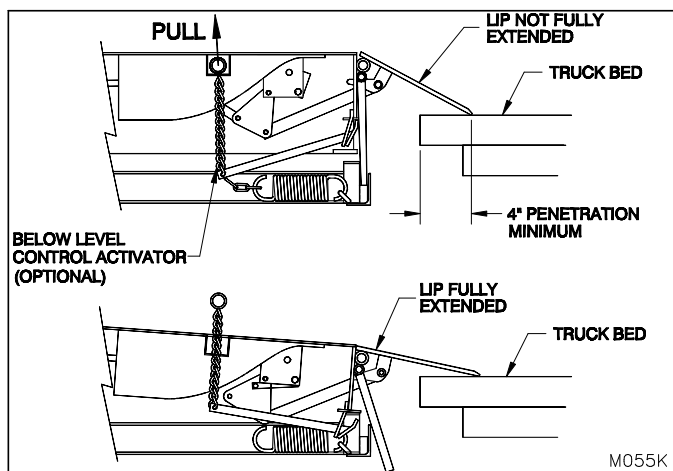

Figure 24: Below Level Control Operation
On dock levelers equipped with mechanical Fallsafe, and if the truck is below dock level, pull and hold the Below Level Control Activator (See Figure 24: Below Level Control Operation on page 16) as you move out on the deck lowering it until the lip makes firm contact with the truck bed.
5. **NOTE:** On dock levelers equipped with Mechanical Fallsafe, the below dock movement is limited by below level leg supports. As the truck and suspension are compressed during the loading or unloading operation, it may be necessary to readjust the support leg setting so the lip is always fully extended and in firm contact with the truck bed. To lower the deck to the next lower setting, pull and hold the Below Level Control Activator as you move toward the front of the deck. (See Figure 24: Below Level Control Operation on page 16) Never attempt to adjust the below level position while a load is on the deck.